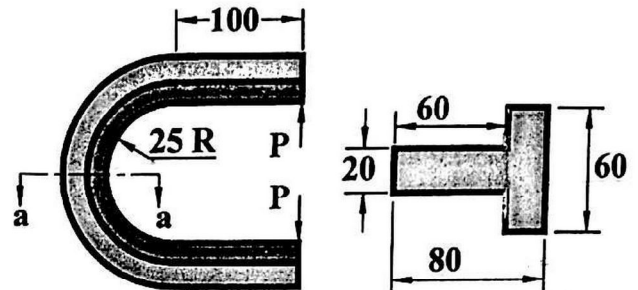

Fig. 1      Section a-a
- (b) For the curved beam shown in Fig. 1, determine the maximum tensile stress in section a-a. Consider  $P = 30\text{kN}$ . In Fig. 1 all dimensions are in mm. (5)